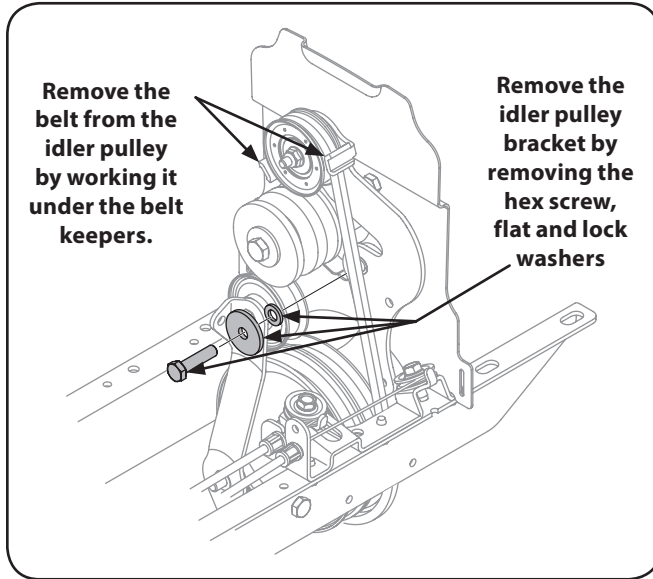

Figure 7-4
- Remove the idler pulley bracket by removing the 5/16-24 hex screw, flat washer and lock washer, as in "Figure 7-4".